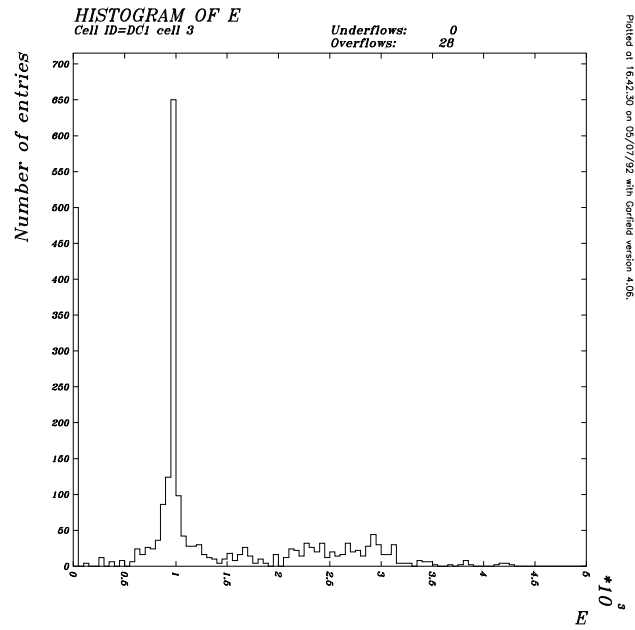

Figure 5. Example of a HISTOGRAM plot.
- as a histogram (see Figure 5 on page 45),